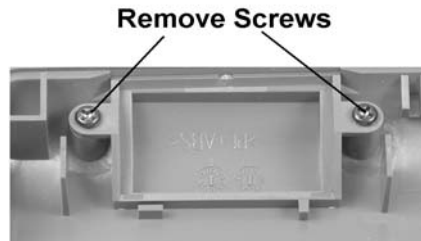

Figure 2: Remove the Plastic Knock-Out
1. Remove the left or right from the the cover. Figure 2.